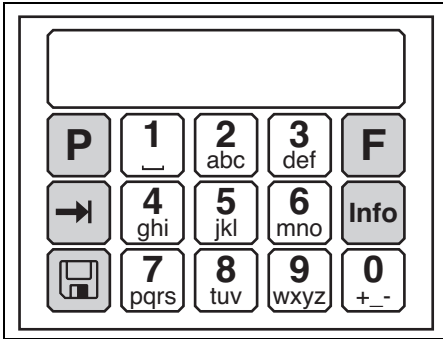
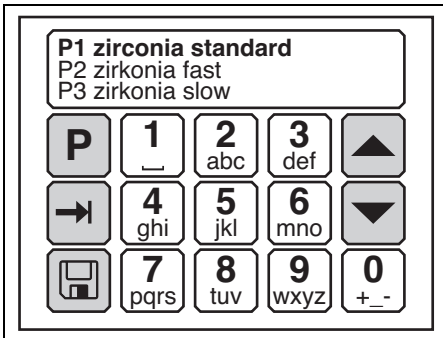

Fig. 4 Display, configuration level
Fig. 5 Display, list menu
**Legend to Fig. 4, Fig. 5 and Fig. 6:**